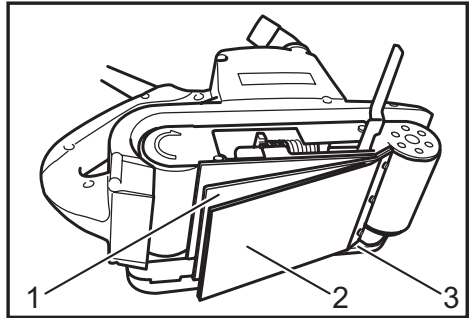

Fig.7
- Fig.7: 1. Steel plate 2. Carbon plate 3. Strap washer